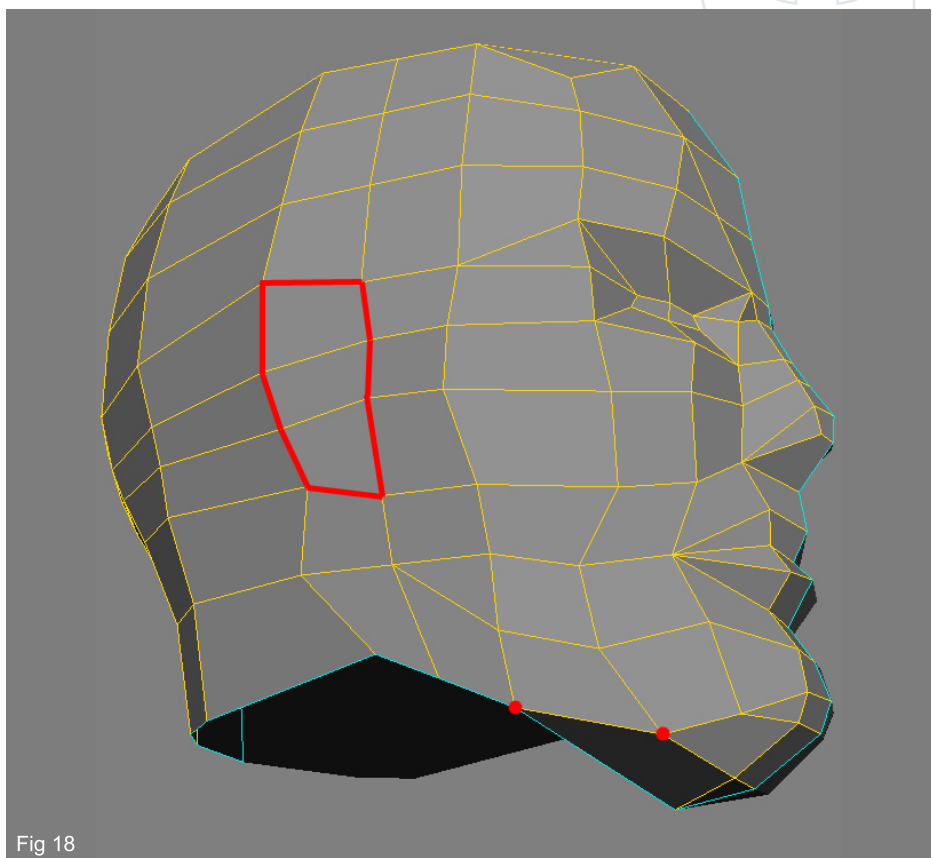

Fig 18
18. We can spare some more polygons in the chin area. Weld the two pairs of vertices marked with red dots in Fig18. After finishing the chin, we can start creating the ear. Move some vertices around to create a rough outline for the ear, as shown in Fig18 (marked with the red contour).